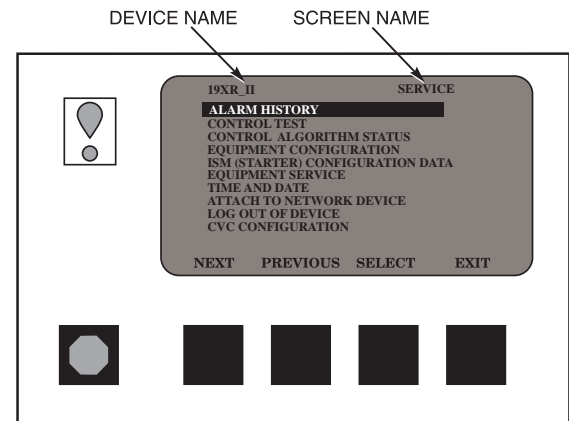

Fig. 15 — CVC/ICVC Service Screen
- If a screen other than the default screen is displayed on the CVC/ICVC, the name of that screen is in the upper right corner (Fig. 15).